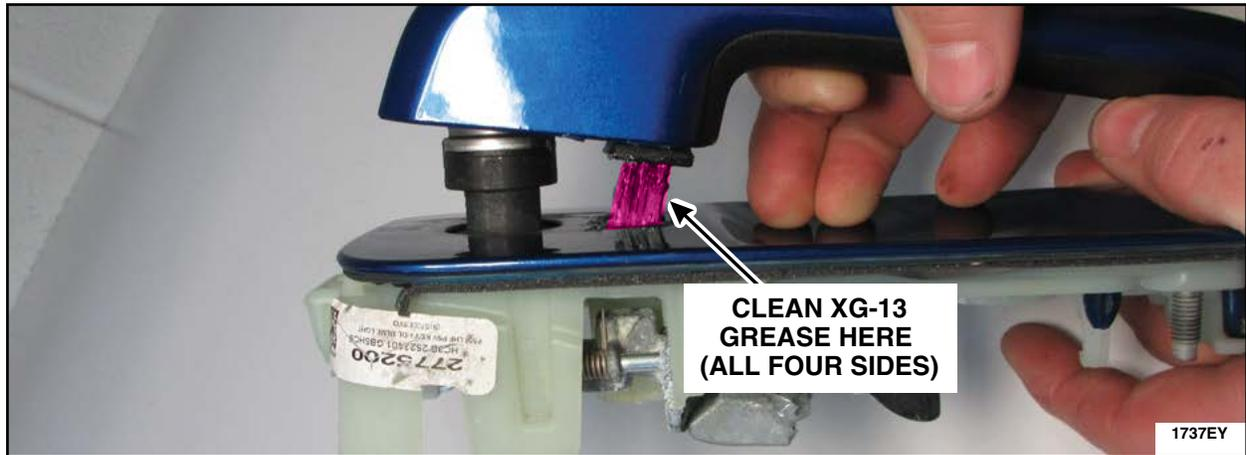

FIGURE 12
18. Using a clean shop cloth and isopropyl alcohol, clean the XG-13 grease from the handle plunger and the three areas highlighted on the exterior door handle. See Figures 12 and 13.